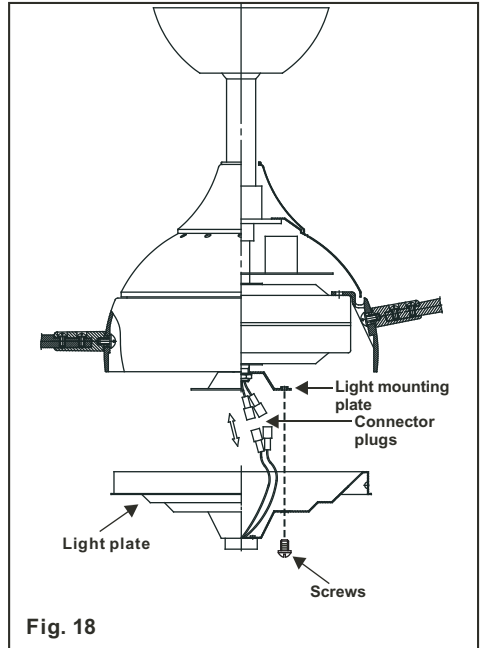

Fig. 18
**Step 2.** Raise and hold the light plate close to the light mounting plate and proceed to do the wire connections. Connect the white wire connectors from the light plate and fan, follow the same procedure with the black wire connectors. (Fig. 18)
**Step 3.** Place the light plate key holes over the 3 screws previously loosened from the light mounting plate, turn light plate until it locks in place at the narrow section of the key holes. Secure by tightening the 3 screws previously loosened. (Fig. 18).